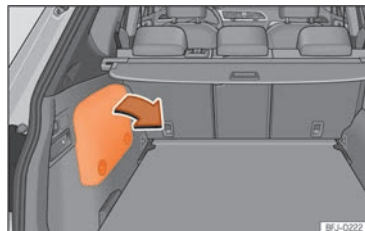

Fig. 249 Location of the battery in the luggage compartment
- Remove the side trim cover to gain access to the 12V battery »» **Fig. 249**.